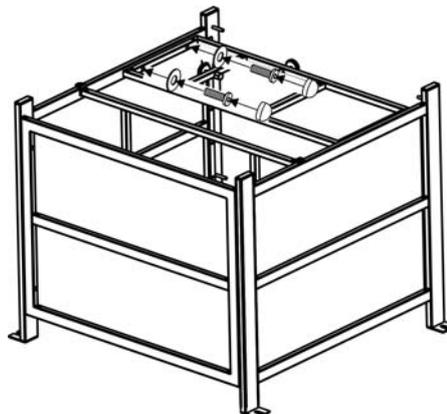

Figure 4
3. Attach the middle support-1 to the side panels by using four 1/4"x30 mm bolts and Ø6.5X1.0 mm washers as shown in Figure 4. Guide bolts through holes in the middle support-1, into pre-drilled holes in the side panels. **Hand tighten only.**